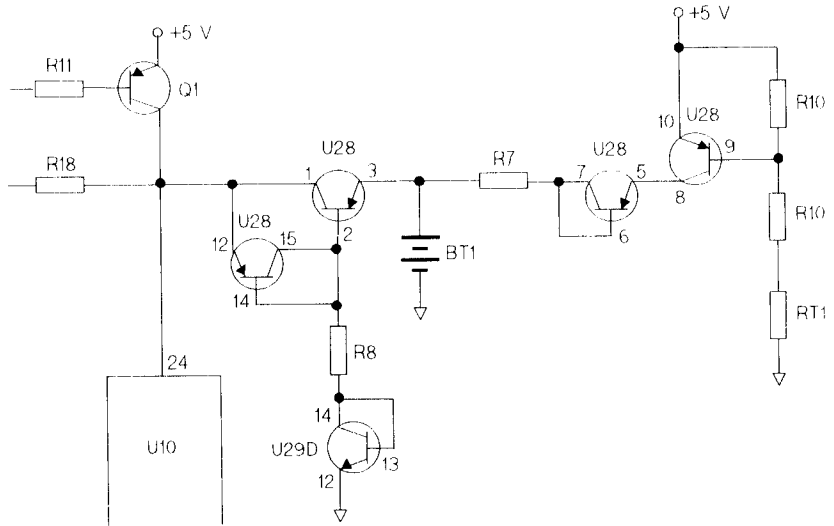

Figure B-15. 08116-66513: U28 schematic
6. Figure B-15 shows the RAM battery supply circuit on microprocessor board 66513, modify Figure 10.7-5 accordingly.